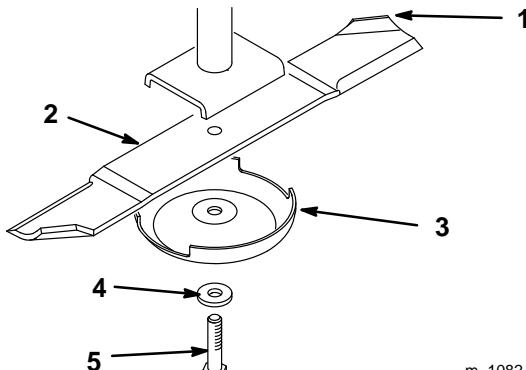
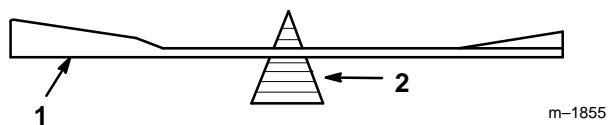

Figure 13
Figure 15
Hold the blade end using a rag or thickly-padded glove. Remove the blade bolt, washer, anti-scalp cup and blade from the spindle shaft (Fig. 13).
2. Check the balance of the blade by putting it on a blade balancer (Fig. 15). If the blade stays in a horizontal position, the blade is balanced and can be used. If the blade is not balanced, file some metal off the end of the sail area only (Fig. 13). Repeat this procedure until the blade is balanced.
1. Install the blade onto the spindle shaft (Fig. 13).
2. Install the lock washer and blade bolt (Fig. 13). Torque the blade bolt to 85–110 ft-lb (115–140 N•m).